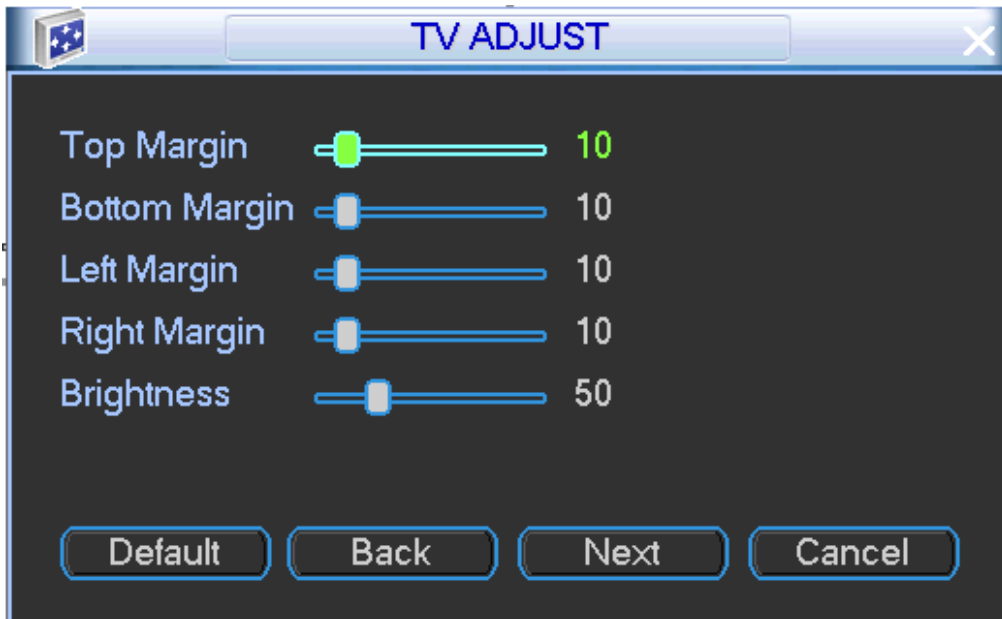

Figure 4-10
- Step 9 Click Next button, enter TV adjust interface. See Figure 4-10.